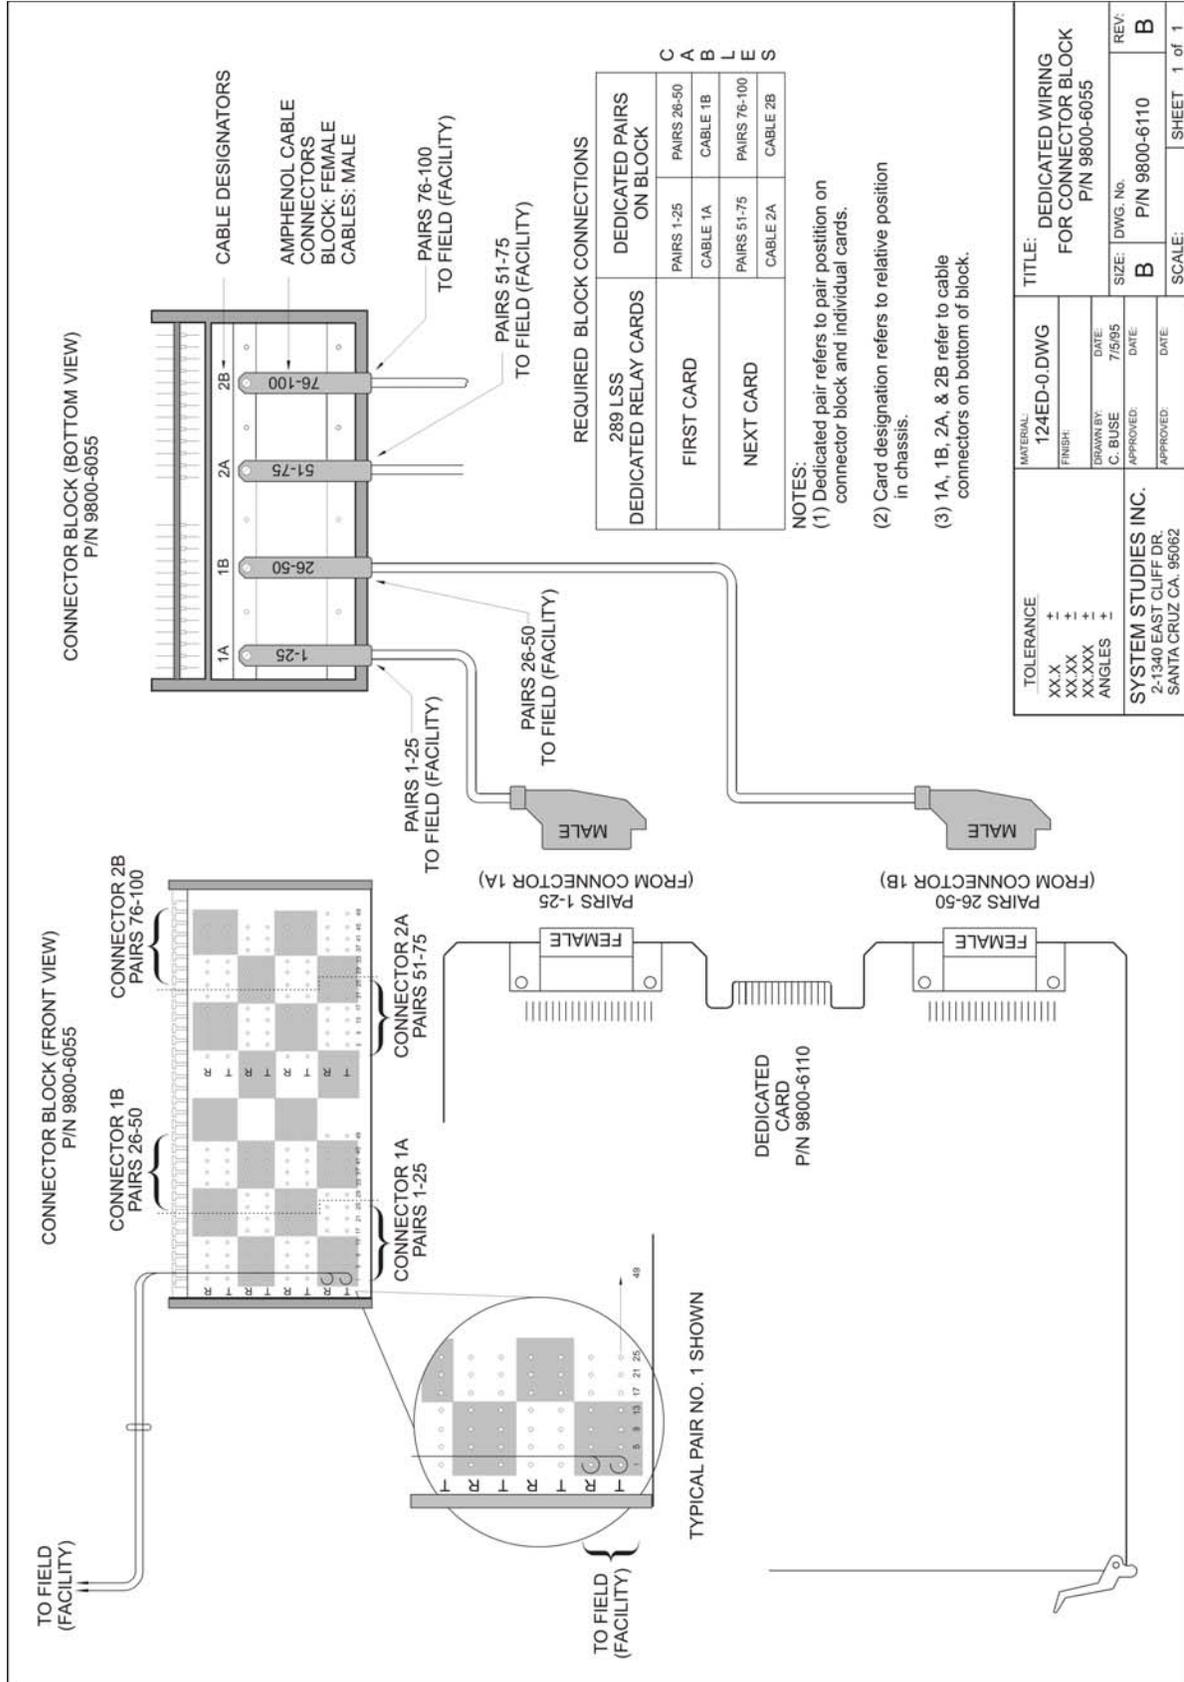

FIGURE 4-8: DEDICATED WIRING FOR DEDICATED BLOCK
3. Female cable connectors 1A and 1B, located at the bottom of the block, are internally wired to the pins in the left section of the block. Connector 1A (containing device pairs 1-25) **MUST** be cabled to the TOP connector of the dedicated relay card. Connector 1B (containing device pairs 26-50) **MUST** be cabled to the BOTTOM connector of the card (refer to FIGURE 4-8).
4. Female cable connectors 2A and 2B are internally wired to the pins in the right section of the block. Connector 2A (containing device pairs 51-75) MUST be cabled to the TOP connector of the next dedicated relay card in the 289H. Connector 2B (containing device pairs 76-100) MUST be cabled to the BOTTOM connector of this card (refer to FIGURE 4-8).